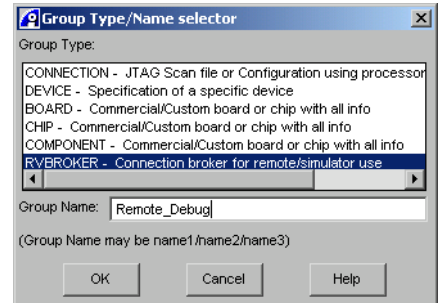

Figure 6-2 Creating a new connection
4. Use the Group Type/Name selector dialog box, shown in Figure 6-2 on page 6-7, to name the new connection, for example Remote_Debug.